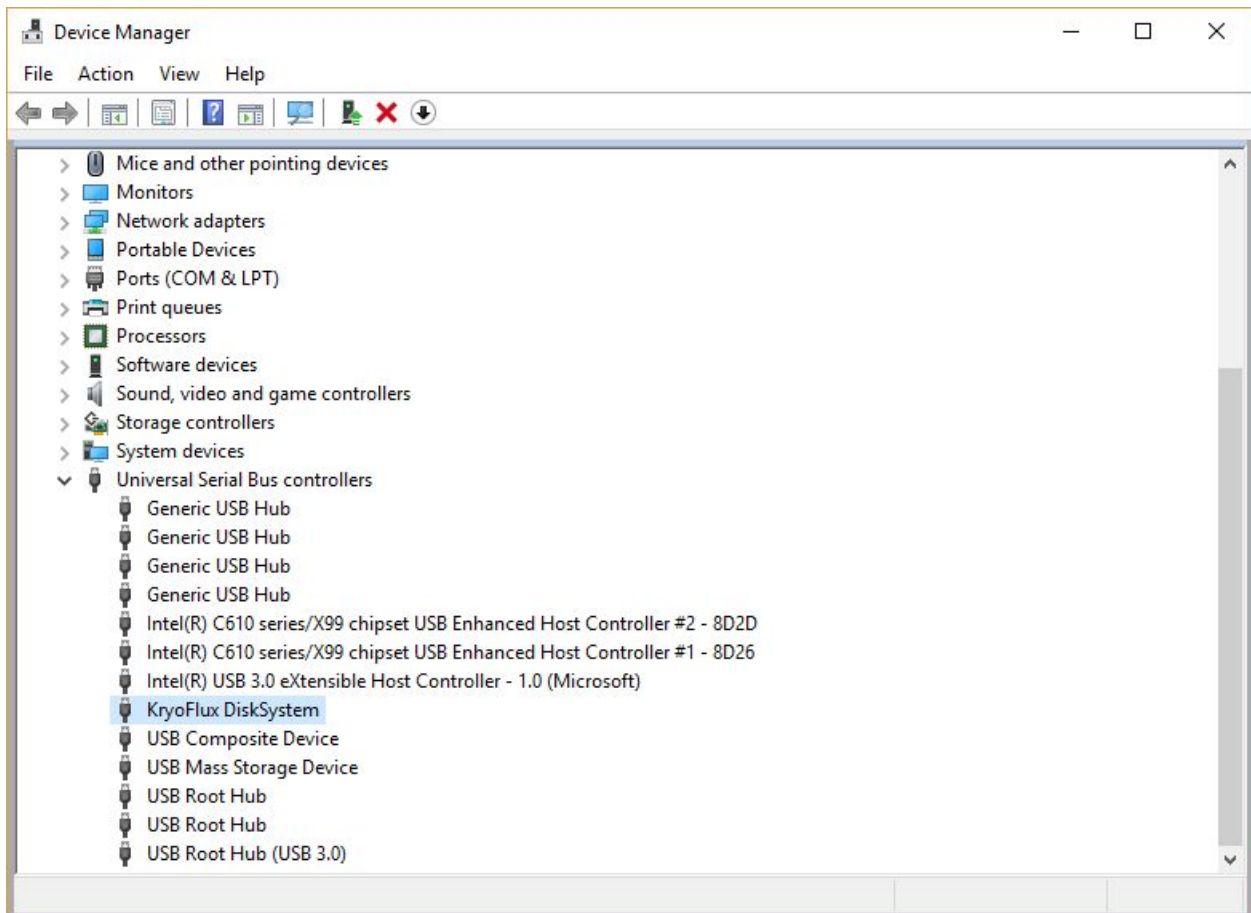

Figure 5: Once the drive is connected to the KryoFlux board via the data cable, connect the board to the computer using the USB cable.
- c. On the KryoFlux side, the cable's first pin should be on the right if viewing the board with the cable connector closest to you (as in figure 5).
5. Connect the KryoFlux board to the computer using the USB cable (see figure 5).